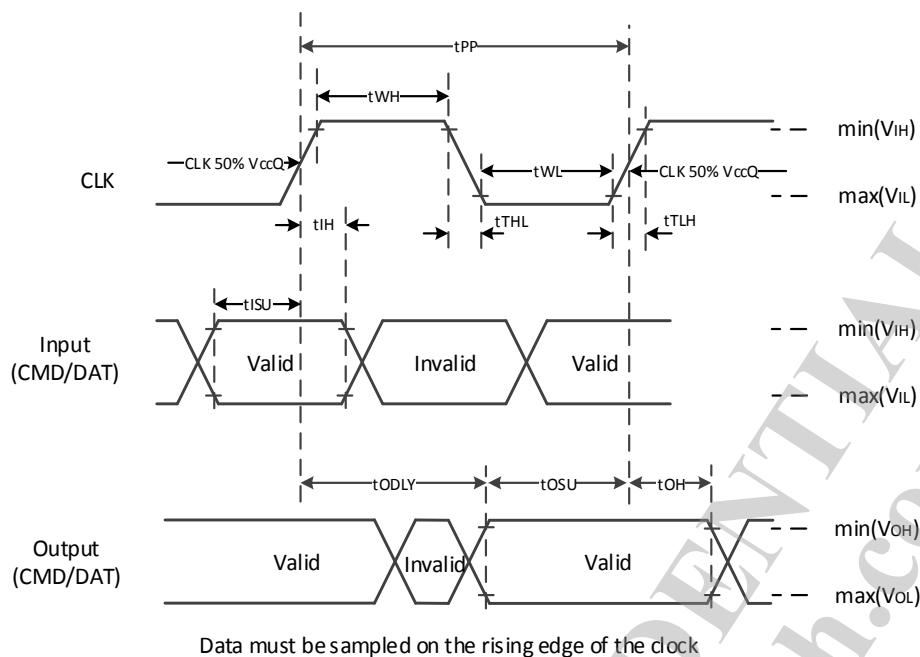

Figure 7.4-9. eMMC interface timing diagram
- The eMMC bus timing is shown in Figure 7.4-9, Table 7.4-7 and Table 7.4-8.